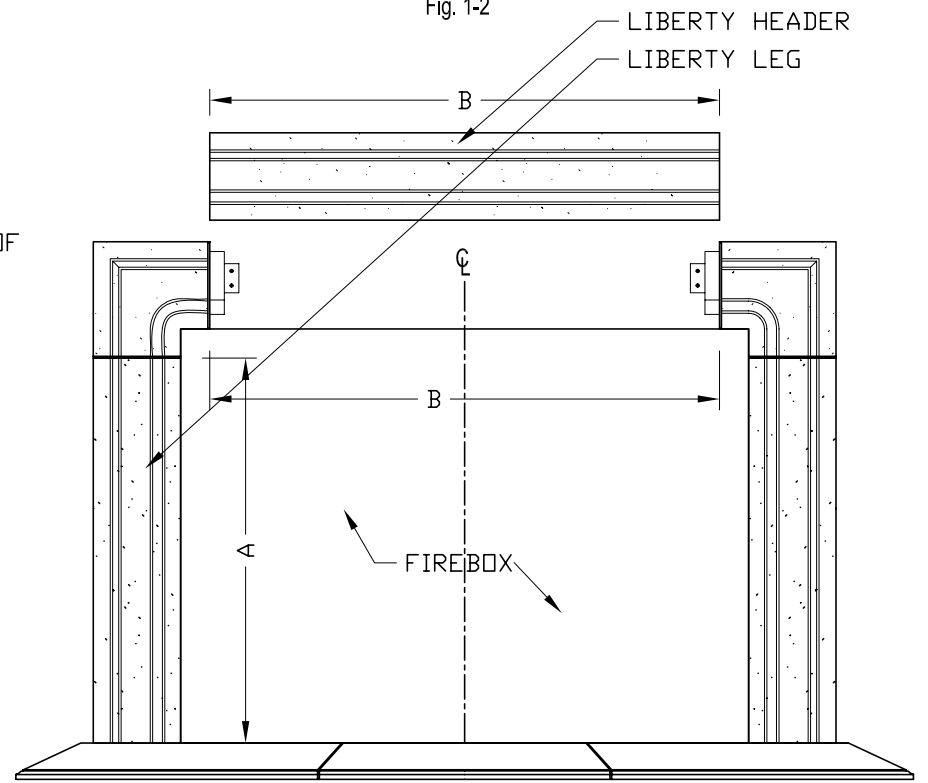

Fig. 1-4
- (e) Measure required header width ‘B’ (Fig. 1.4). Mark & cut Liberty header to this measurement. Apply adhesive to the face of wall where back of the header will contact and also tabs on the corners.